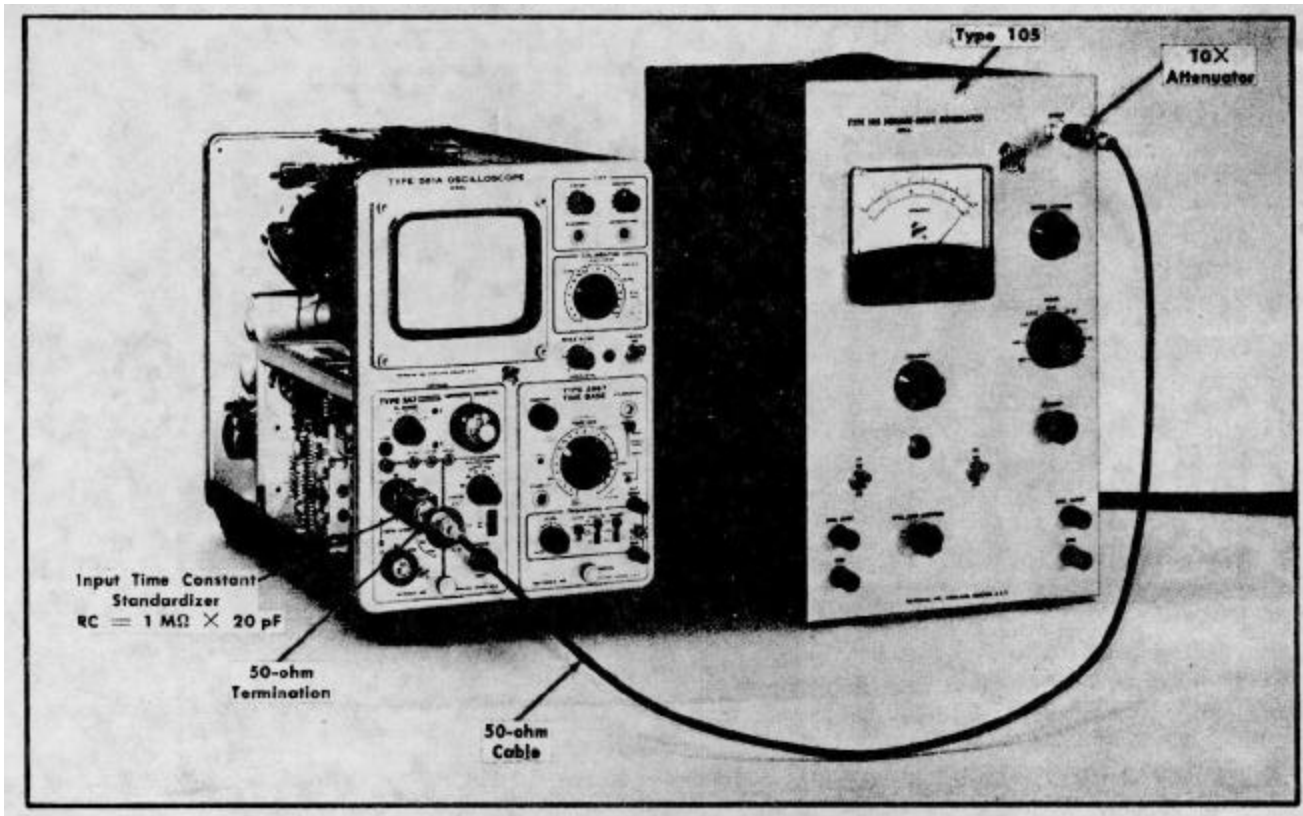

Fig. 5-40. Setup a completion of step 34b.
b. Apply a 1-kHz signal from the Type 105 Square-Wave Generator, or equivalent through a 10X attenuator, a coaxial cable, a 50-ohm termination and a 1-MΩ X 20pF input time constant standardizer (in that order) to the A input connector. Fig. 5-40 shows the setup required to perform this step.